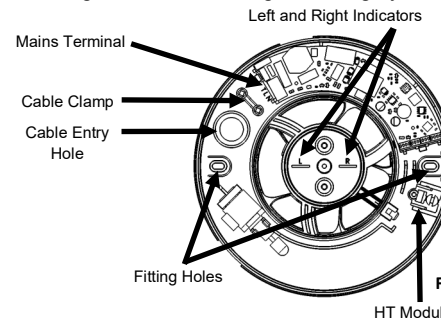
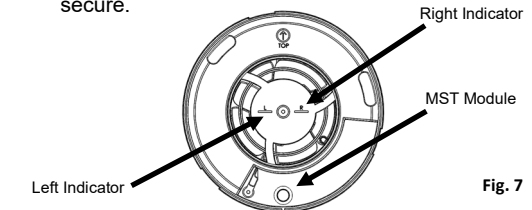

Fig. 6
Fig. 7
- Fit the sealing grommet supplied into the cable entry hole. (Fig. 6)
- Feed through the cable and fit the fan. (Fig. 6) Offer up the supply cable to fan. Cut to length needed.
- Make provision for the electric supply cable and wall plugs / appropriate fittings using the main body as a template. Level using guides below the L and R symbols. (see Fig. 6)
- To replace the IPX cover, line up the L (Left) and R (Right) indicators on the main body of the fan (Fig. 6) with the L and R indicator on the IPX cover (Fig. 7). Lightly press the IPX cover onto the main body.